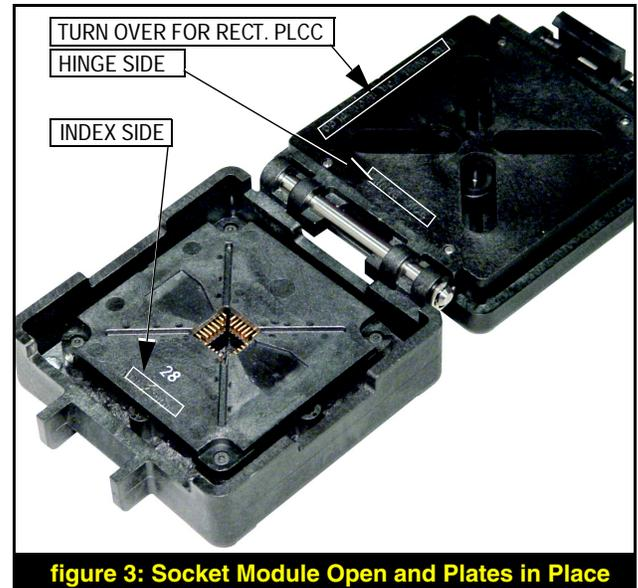

figure 3: Socket Module Open and Plates in Place
2. Determine what PLCC you want to load, for example, a 28-pin PLCC. Ensure that the slotted plate (pressure plate) on the inside of the door is positioned **a)** correct side up, and **b)** correct edge adjacent to the hinge, as determined by the text on the plate. For a 28-pin PLCC, the correctly positioned plate will read, "TURN OVER FOR RECT. PLCC," since the 28-pin PLCC is square rather than rectangular. If it is incorrect, pull the plate up and off the locating pins, turn it over, orient it correctly and push until it is seated (flush with the pins). See figure 3.
3. There are seven insert plates each with a number corresponding to the number of pins on the PLCC they accommodate. For a 28-pin PLCC orient the insert plate labeled "28" with the text "28" and "INDEX SIDE" in the front (opposite the hinge) and push it onto the four posts until it is seated. See figure 3.